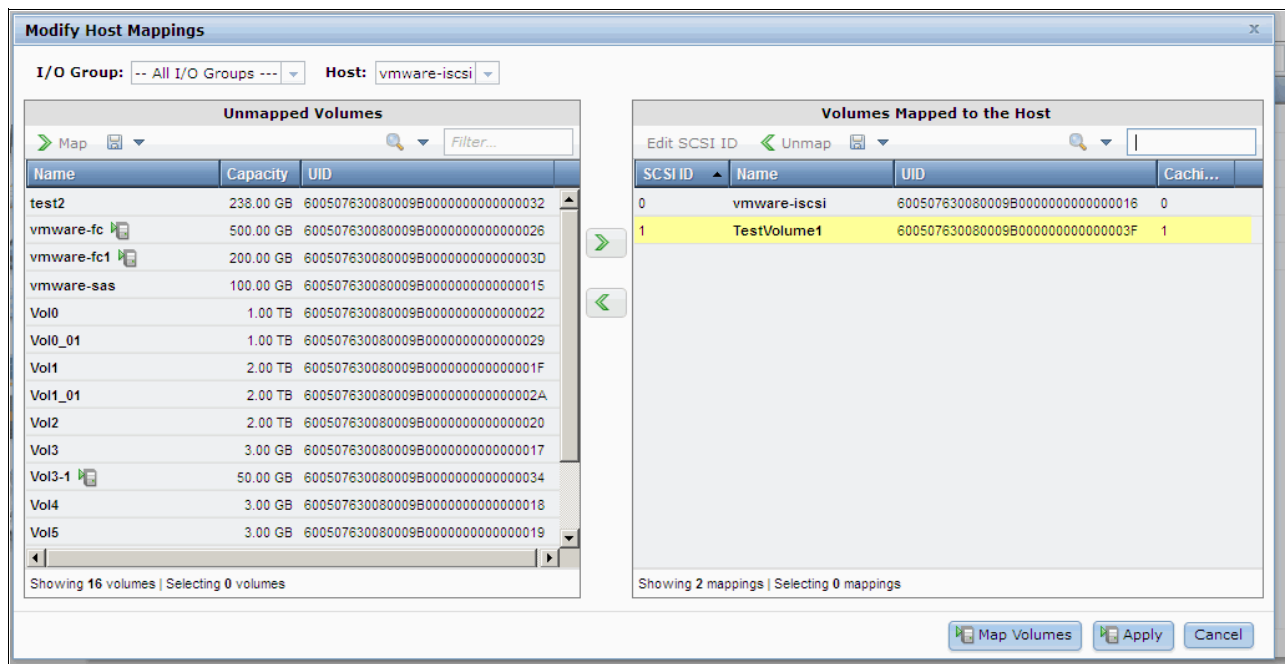

Figure 5-31 Modify host mappings window
- Click the right-pointing arrow. The volume is moved to Volumes Mapped to the Host pane, as shown in Figure 5-31 on page 184. Repeat this step for all the volumes that you want to map. To continue and complete the mapping, you can click **Apply** or **Map Volumes**. The only difference between these options is that after the mapping task completes (as shown in Figure 5-31 on page 184), the Modify Host Mappings window closes automatically. Clicking **Apply** but leaves the Modifying Host Mappings window open.